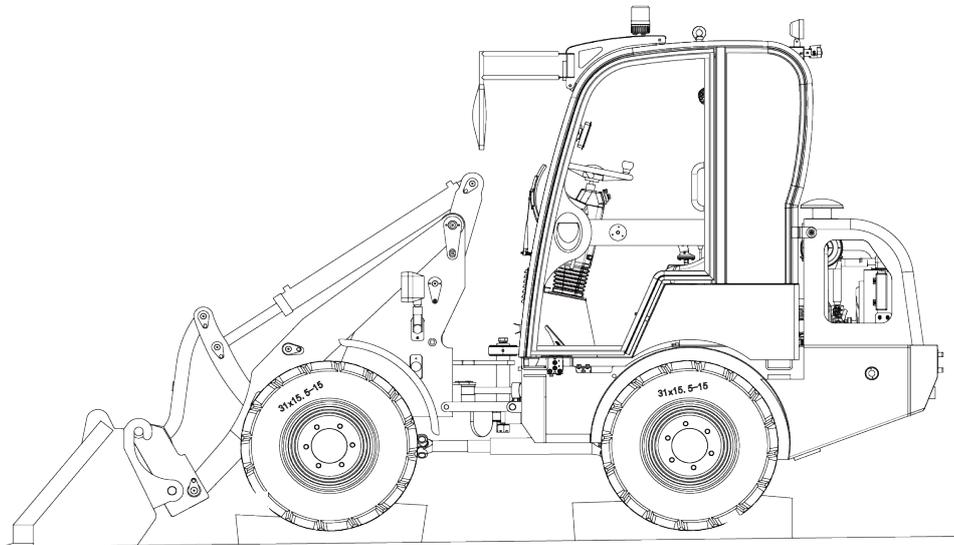

Figure 6-11 Parking status
(4) Oil plug (5) Oil filler port
Step 1: Park loader on a flat field, place control handle in neutral position, stop and pull up parking brake handle, put the blocks before and after the tires, as shown in Figure 6-11;